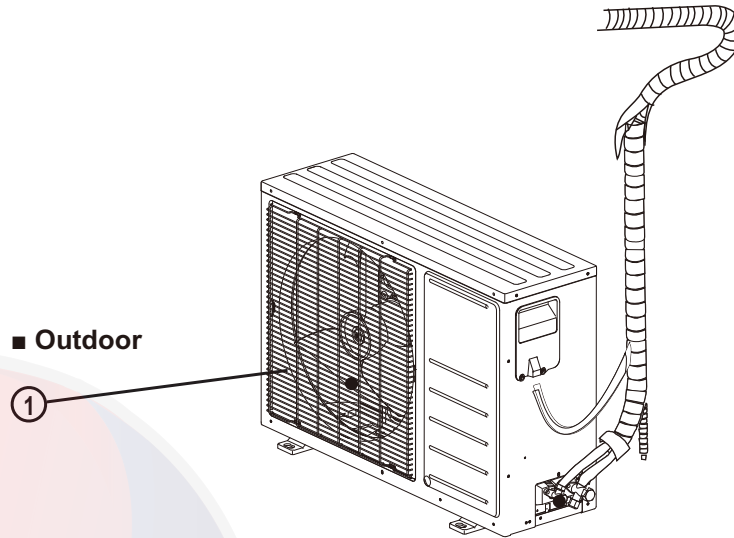

Fig. 1 — Parts List
- Figure 1 is only a sketch. Different models may be slightly different.